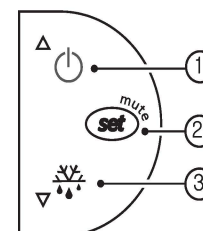

Fig 8-2
8.3 Button Symbols (Fig 8-2)
- ①, : Output ON/OFF if pressed for over 3 seconds.
- ②, : Changes operating values if pressed for 1 second.